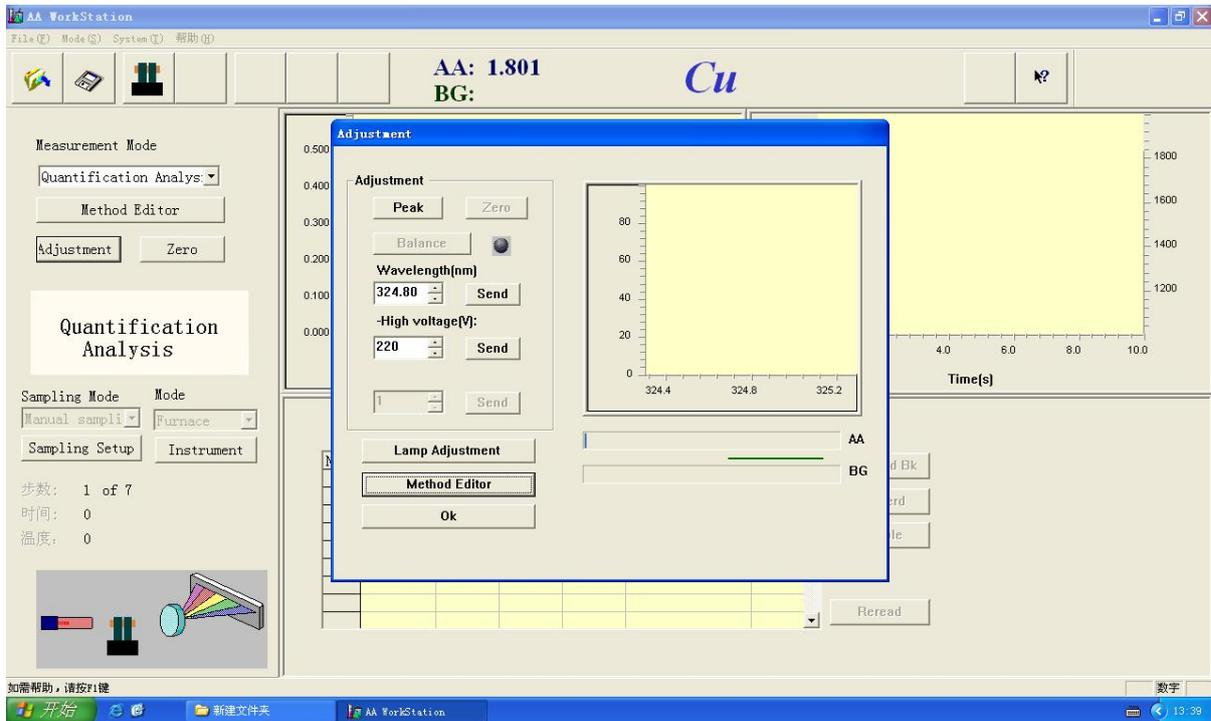

Figure 4-43
- Press “Adjustment” button, pop up a dialog box (Figure 4-43)